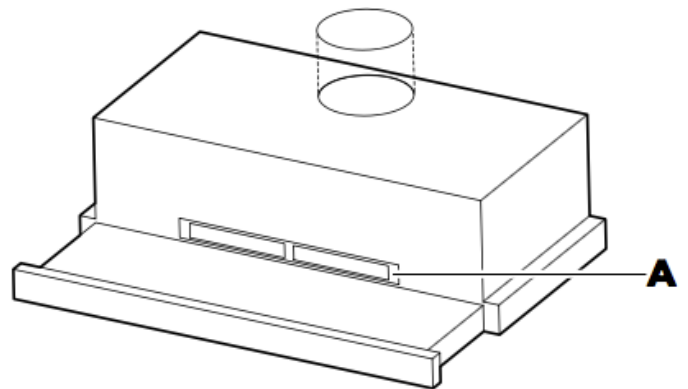

Fig.1 Preparing for install
- Do not remove cover tape (A), See Fig.1. This is removed for recirculating only.
- Remove cover tape (A), see Fig.1.